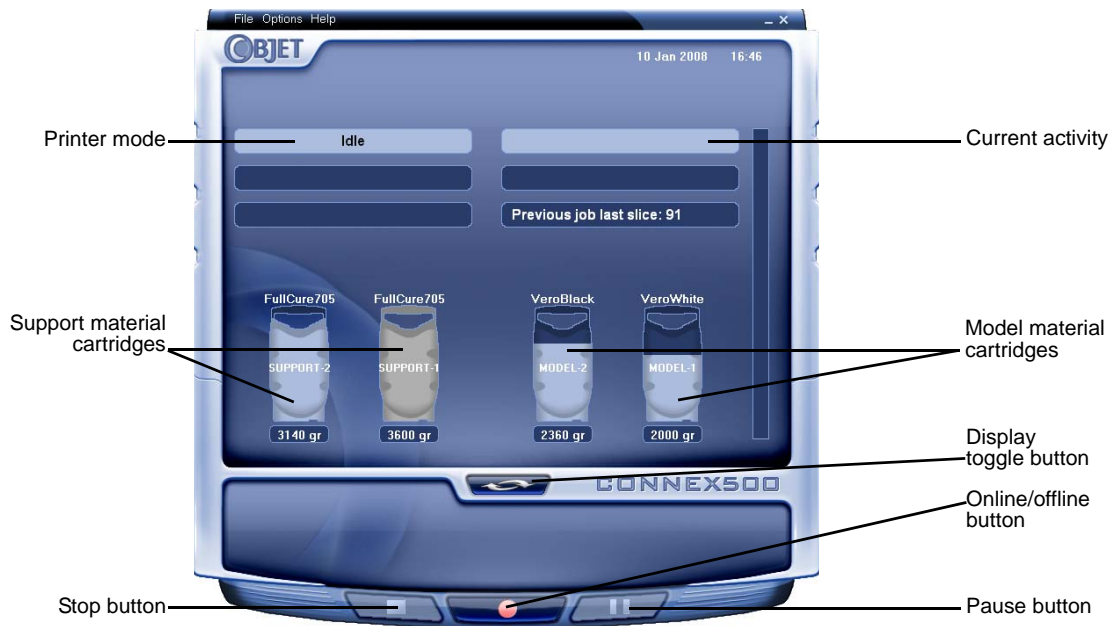

Figure 7-3: Connex500 interface
The Connex printer interface screen opens (see figure 7-3). All monitoring and controlling of the Connex printer is done from this interface.
Connex printers use two cartridges of model material and two cartridges of support material, each weighing 3.6 kilograms when full. A graphical representation of the cartridges and their current weight appears in the printer interface (see figure 7-3).
4. Check the Connex printer interface to make sure that the new cartridge is detected and that its weight is displayed (see figure 7-3).
2. Make sure that there is sufficient model and support material loaded in the printer, as indicated in the Connex printer interface (see figure 7-3). You may want to replace the cartridges of model and support material currently loaded in the printer to avoid the need for replacing them during printing.
1. Switch the printer to online mode by clicking the red button at the bottom of the Connex printer interface (see figure 7-3 on page 3).